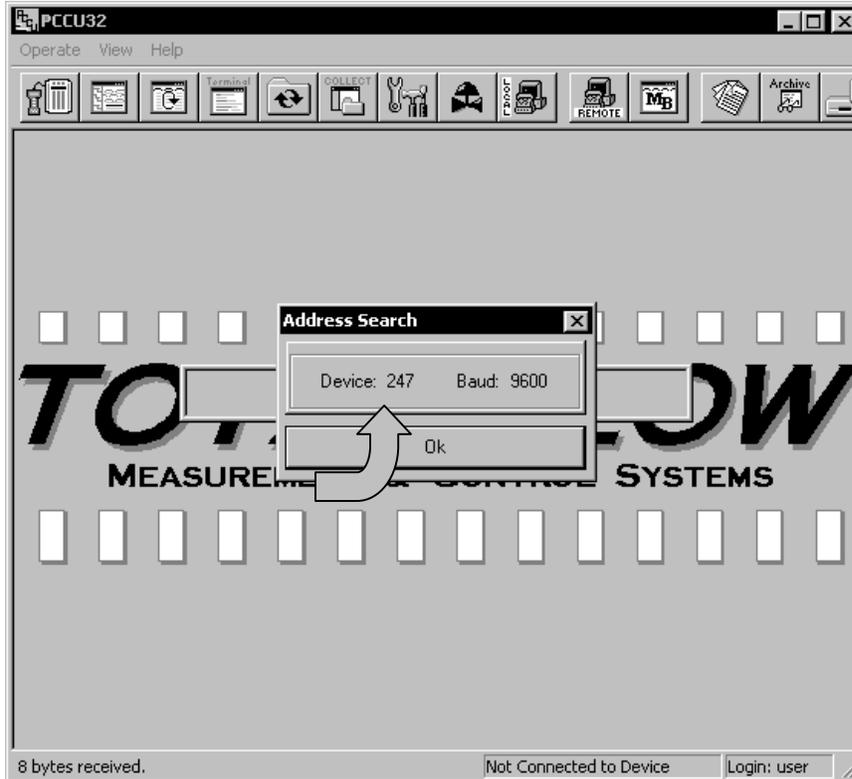

Figure 1–3 Device Address Search Screen
- 5) When the TFModbus screen appears (see Figure 1–4), select the device address tab with the Modbus address found in the address search. Modbus address 247 is the default and correlates to the “XMV Default” tab.